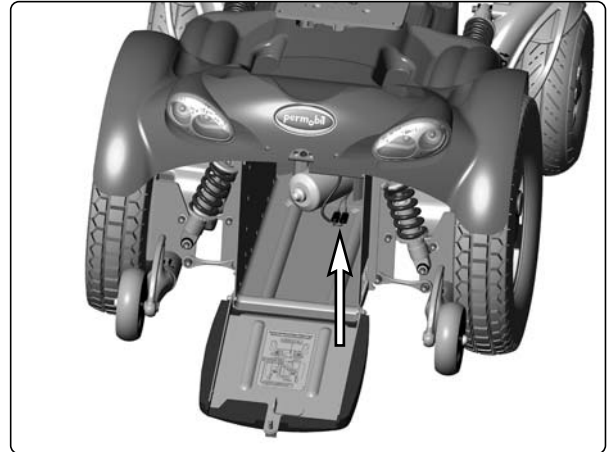

Fig. 51. Seat elevator cabling.
3. Disconnect the seat elevator cabling at the connector fitted on the cabling. It is accessible from the rear through the rear battery box; see figure 51.